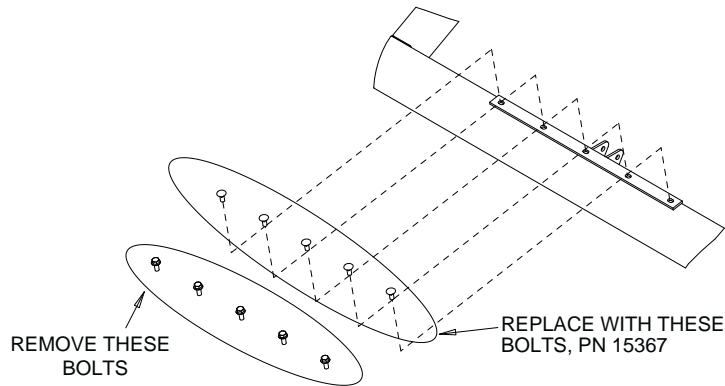

Figure 1
1. Remove existing 8mm x 3/4" bolts and nuts from JD combine grain tank (See Figure 1).